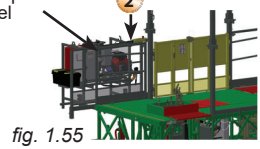

fig. 1.55
- 3- Install the 44" (112 cm) door support guardrail at the right end of the motorized unit ("2" in fig. 1.54), in front of protective panel of the power pack assembly, as shown in fig. 1.55). Secure the guardrail in place by tightening the bolt on each guardrail pocket to a torque of 30 lb-ft (41 N-m).